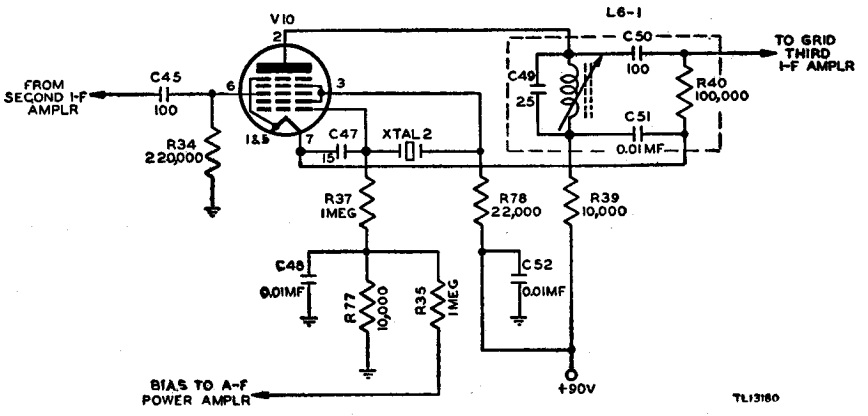

Figure 48. Radio Receiver and Transmitter BC-1000-A, receiver second mixer and crystal oscillator.
a. The second mixer and crystal-oscillator Tube JAN-1R5, V10, as shown in figure 48, mixes the 4.3-mc first i-f signal with the crystal-controlled frequency to produce a new intermediate-frequency of 2.515 mc. The oscillator section of the converter, on a frequency of 6.815 mc, is a Pierce oscillator with the anode grid of the converter serving as the plate of a triode oscillator. The 4.3-mc signal is applied to the third grid of the converter. The oscillator signal is mixed with the first i-f signal in the electron stream of the tube. The difference frequency is brought out in the parallel resonant plate circuit tuned to 2.515 mc. The interstage transformer L6-1 contains tuning capacitor C49, tunable iron